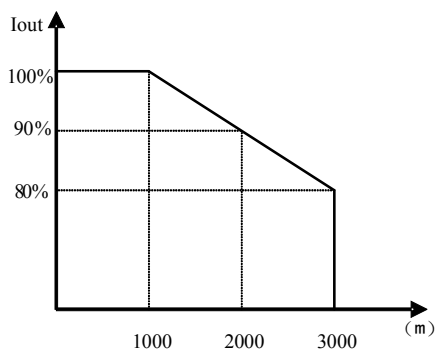

Fig 1-7 Derating drive's output current with altitude
- Derating must be considered when the drive is installed at high altitude, greater than 1000m. This is because the cooling effect of drive is deteriorated due to the thin air, as shown in Fig. 1-7 that indicates the relationship between the elevation and rated current of the drive.